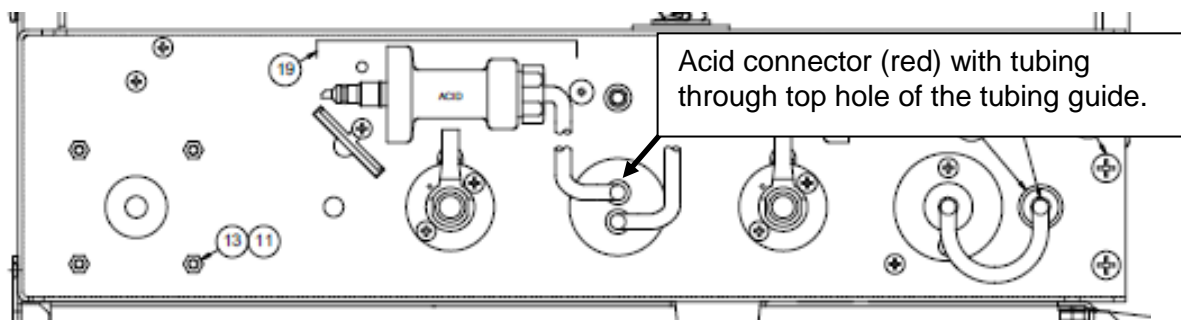

Figure 11
14. Route the other end of the new extended tubing attached to the acid connector through the top hole of the tubing guide (Figure 11).